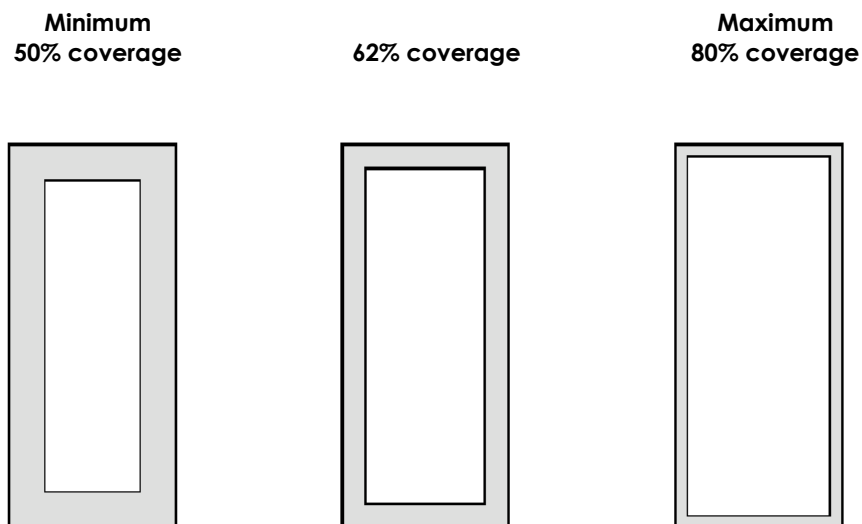

Figure 10: Solder paste application on pins
4. The aperture opening for the signal pads should be between 50-80% of the QFN pad area as shown in Figure 10.